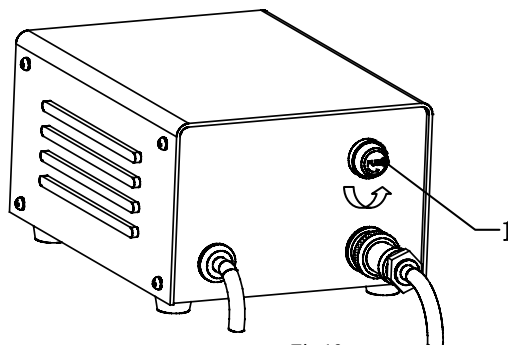

Fig.19
- (1) Turn off the power switch 1, and unplug the power cord, as shown in Fig.19-a.
- (2) Wait at least 30 minutes until the bulb and its surroundings have cool down. This is to prevent hand getting burnt by heat.
- (3) Catch hold of the lamp house back cover and pull out backward, take out the defective bulb and replace a new one.